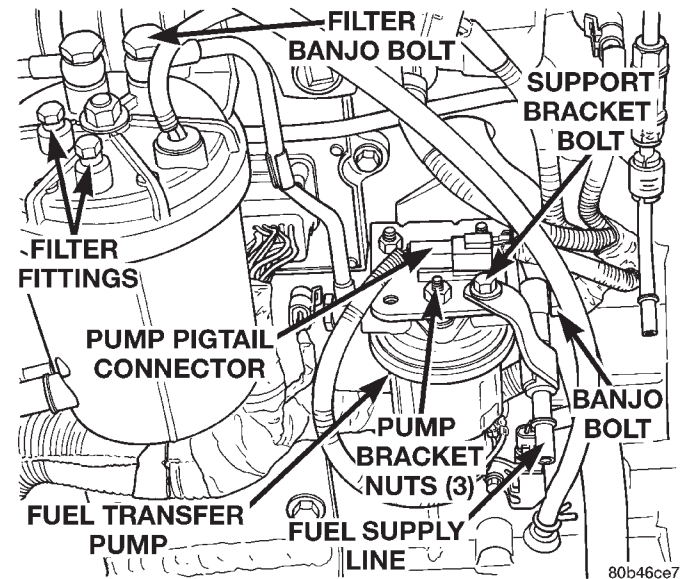

Fig. 19 Fuel Transfer Pump Location
The fuel transfer (lift) pump is located on left side of engine and above starter motor (Fig. 19).
(1) Remove 2 existing filter fittings (plugs) at top of fuel filter housing (Fig. 19) (clean area around fittings before fitting removal). In place of 2 fittings